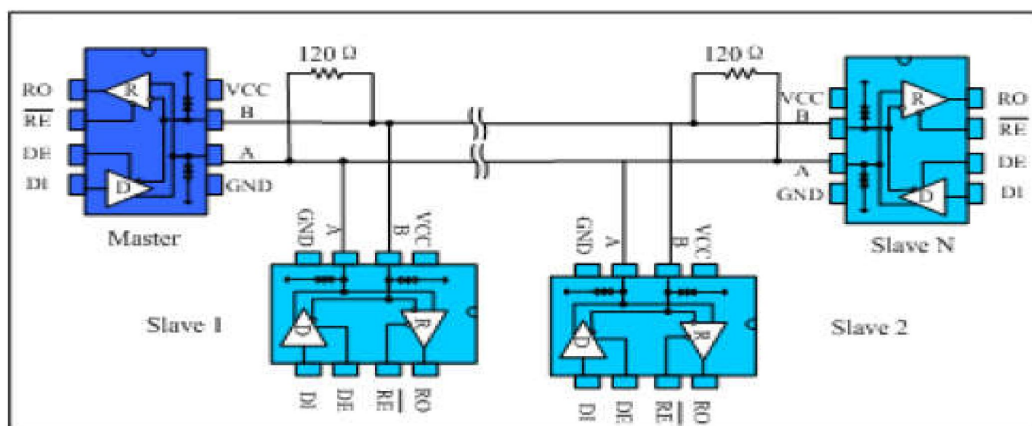

Fig. 9 Bus-type RS485 half-duplex communication network
4.1 Bus networking: The MAX483CSA-TD RS485 transceiver is designed for bidirectional data communication on multi-point bus transmission lines. Figure 9 shows a typical network application circuit. These devices can also be used as linear repeaters with cables longer than 4000 feet. In order to reduce reflections, terminal matching should be done at both ends of the transmission line with their characteristic impedance, and the length of the branch wires other than the main line should be as short as possible.